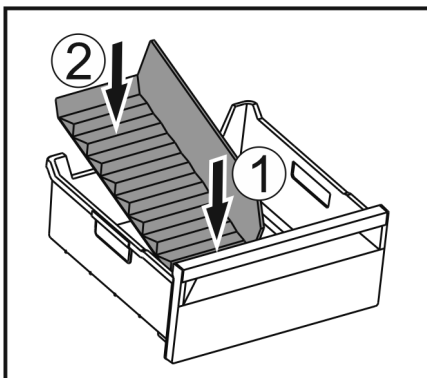

Fig. 97
- Insert the front part of the ice compartment divider. Fig. 97 (1)
- Lower the rear part of the ice compartment divider to the drawer bottom. Fig. 97 (2)